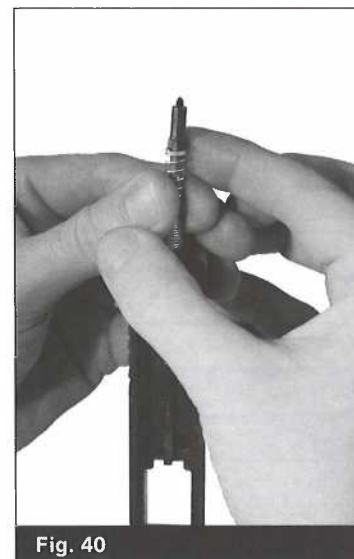

Fig. 40
- While continuing to hold the firing pin spring down, install the spring cups by placing them on either side of the round part of the firing pin so that they form a circle with the wide part at the top, and then release your grip on the firing pin spring allowing it to move upward and hold the spring cups in place. (Fig. 40)